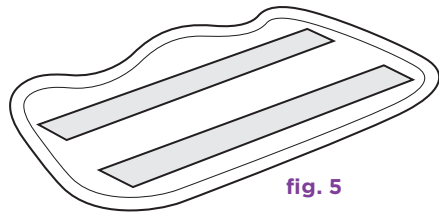

fig. 5
3 Mop with a forward and backward motion to customize steam output automatically. (fig. 5)
- 1 Wash pads in warm water. Wash separately from other laundry. Only use liquid detergent (no powder detergent). Do not use fabric softeners. Line dry or dry on a low dryer setting. (fig. 5)